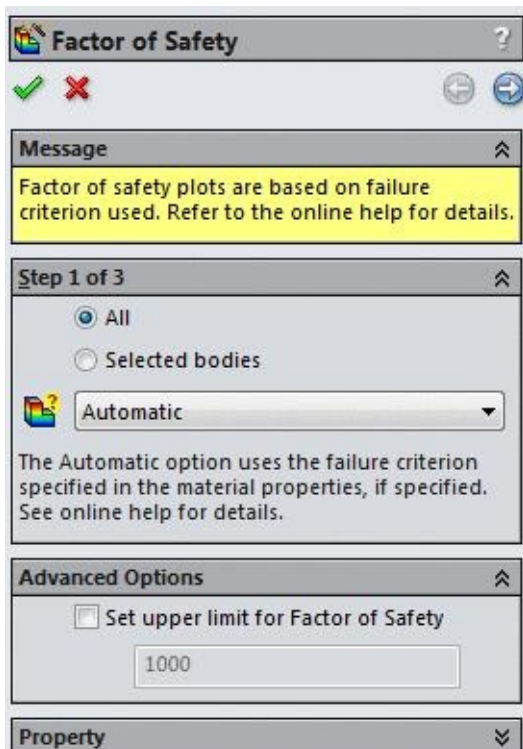

Figure-9. Factor of Safety PropertyManager
- The **Factor of Safety PropertyManager** will be displayed; refer to Figure-9.